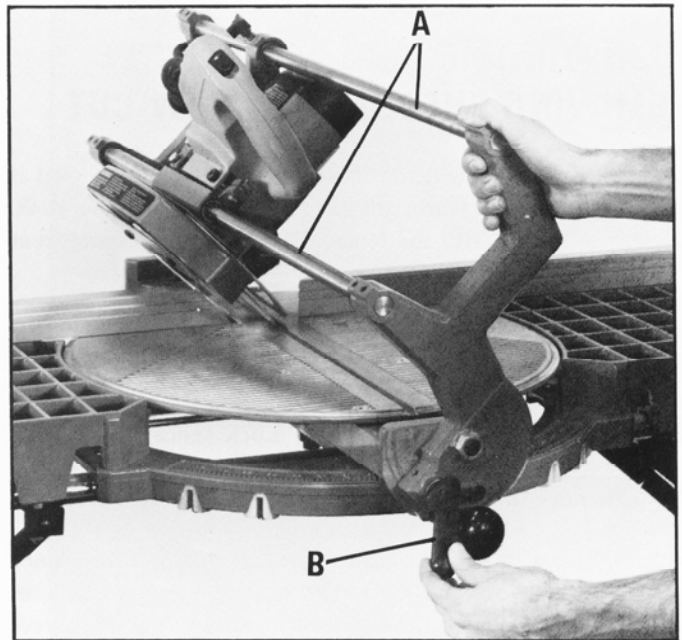

Fig. 32
6. With tilt lever (B) still loose, tilt track arm (A) all the way to the left, as shown in Fig. 32, until it touches against the positive stop. Do not tighten tilt lever (B).